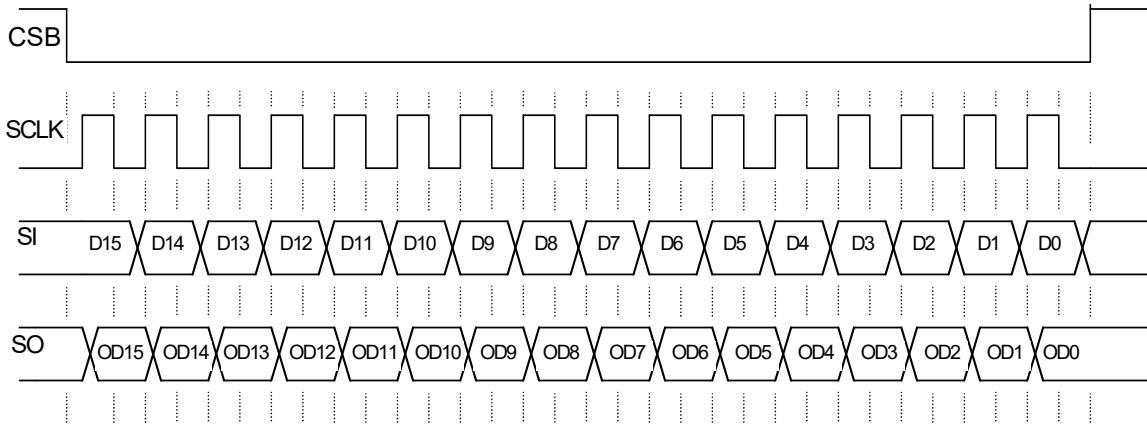

Figure 10. Single 16-bit word SPI communication
The SCLK pin clocks the internal shift registers of the 07XS3200 device. The serial input (SI) pin accepts data into the input shift register on the falling edge of the SCLK signal while the serial output (SO) pin shifts data information out of the SO line driver on the rising edge of the SCLK signal. It is important the SCLK pin be in a logic low state whenever CSB makes any transition. For this reason, it is recommended the SCLK pin be in a logic [0] whenever the device is not accessed (CSB logic [1] state). SCLK has an active internal pull-down. When CSB is logic [1], signals at the SCLK and SI pins are ignored and SO is tri-stated (high-impedance) (see Figure 10, page 23). SCLK input has an active internal pull-down,  $I_{DWN}$ .